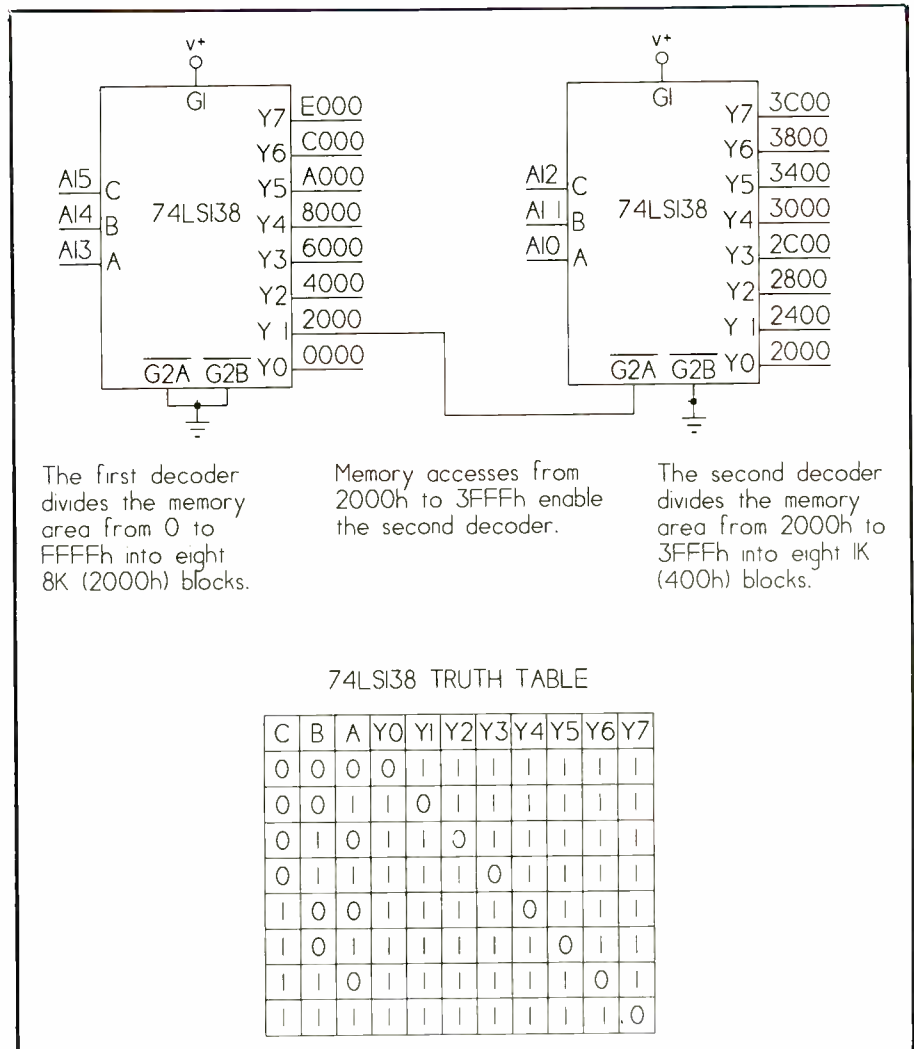

Fig. 4. Decoders like the 74LS138 can divide an area of memory into blocks, with a unique ENABLE or CHIP-SELECT signal for each block.
A. Decoders like the 74LS138 are a popular way of dividing memory into blocks, each with its own chip-select line, so that multiple memory ICs and other components can be accessed, with each at a unique range of addresses. The 8052 has 16 address lines that permit it to address 64K bytes of memory (65,536 bytes, or 2^{16}). A single 74LS138 divides the memory area into eight 8K blocks. Figure 4 shows how a second decoder can be added to divide one of the 8K blocks into eight 1K blocks, giving eight additional chip-select lines.
One of the outputs on the first decoder in Fig. 4 acts as the ENABLE for a second decoder, with its SELECT inputs connecting to A10, A11 and A12. This creates eight more chip selects, with each accessing a 1K (400h) block of memory. The example uses the Y1 output (2000h) as the second decoder's ENABLE, but any of the outputs could be used. For example, substituting Y5 for Y1 would create chip selects at A000h, A400h, A800h and so on.